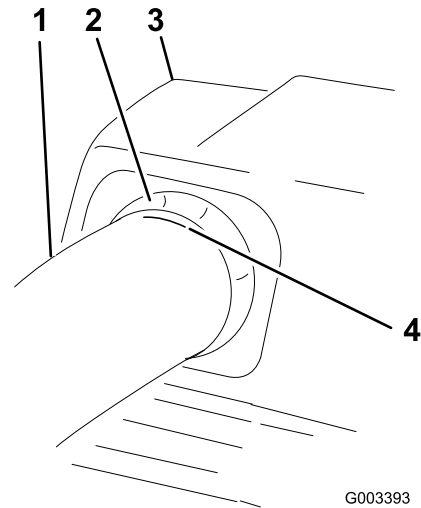

Figure 24
7. Once the 19 mm (3/4 inch) measurement has been achieved, mark the upper tube on the outside where the rubber seal protrudes out (Figure 24).
11. Check to make sure that the mark from Figure 24 is still in place.